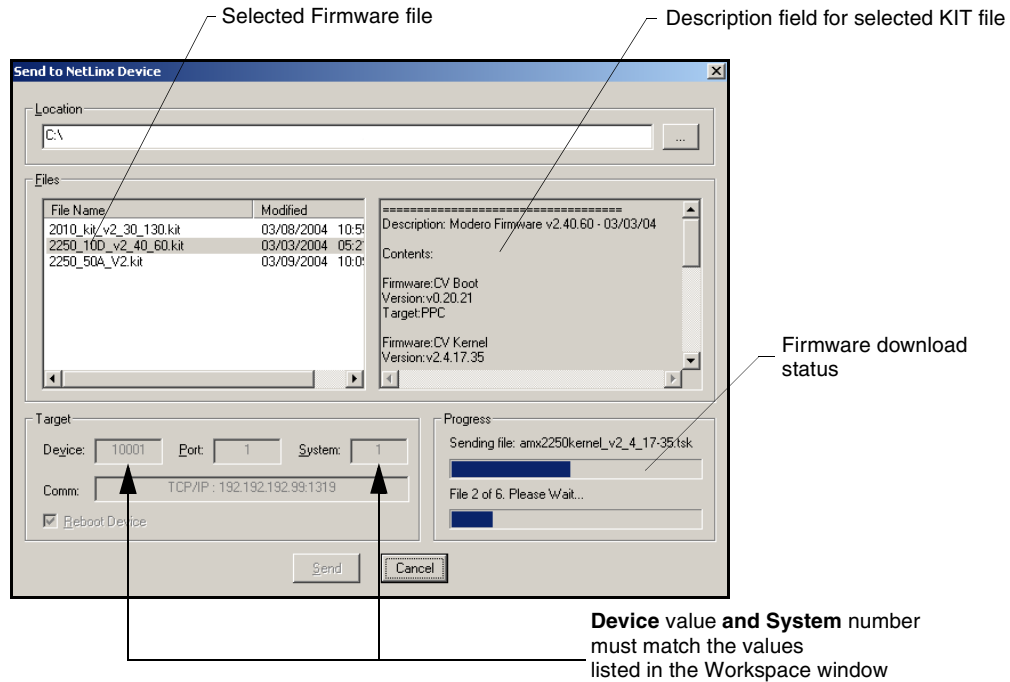

FIG. 98 Send to NetLinx Device dialog (showing Modero firmware update via IP)
- From within Studio, select **Tools > Firmware Transfers > Send to NetLinx Device** from the Main menu to open the Send to NetLinx Device dialog (FIG. 98). Verify the panel's System and Device number values match those values listed within the System folder in the **OnLine Tree** tab of the Workspace window.
- Select the panel's KIT file from the **Files** section (FIG. 98).
- Click **Send** to begin the transfer. The file transfer progress is indicated on the bottom-right of the dialog (FIG. 98).